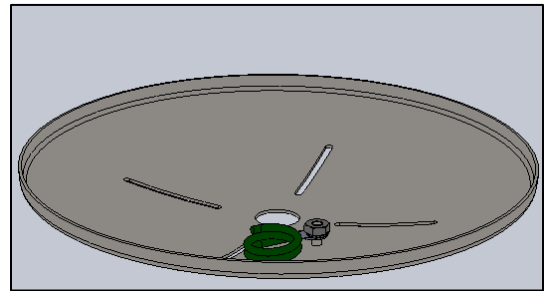

FIG. 4 - CANOPY
- a. CANOPY (Grounding wires Pre-assembled as shown in FIG. 4)